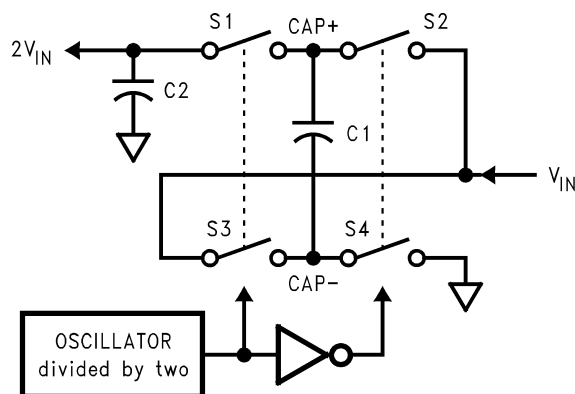

Figure 18. Voltage Doubler Principle
The doubler contains four large CMOS switches which are switched in a sequence to double the input supply voltage. Figure 18 illustrates the voltage conversion scheme. When S2 and S4 are closed, C1 charges to the supply voltage V_{IN} . During this time interval, switches S1 and S3 are open. In the next time interval, S2 and S4 are opened at the same time, S1 and S3 are closed, the sum of the input voltage V_{IN} and the voltage across C1 gives the $2V_{IN}$ and the voltage across C2 gives the $2V_{IN}$ at V_{DBL} output. V_{DBL} supplies the LDO regulator. It is recommended not to load V_{DBL} when V_{05} has a load of 50mA. For proper operation, the sum of V_{DBL} and V_{05} loads must not be more than 50mA.
- R_{SW} is the sum of the ON resistance of the internal MOSFET switches as shown in Figure 18